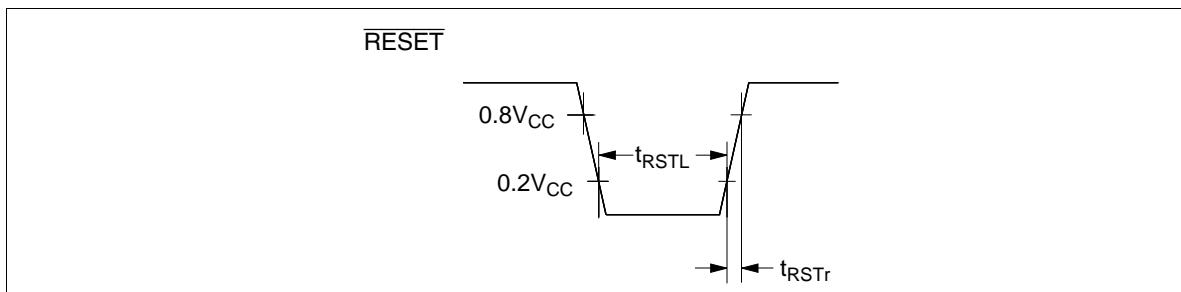

Figure 86 $\overline{\text{RESET}}$ Timing
5. Refer to figure 86.
7. Refer to figure 86.